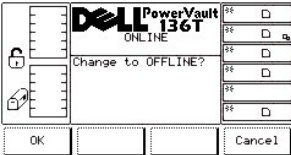

Figure 16. Offline Confirmation Dialog
- 1 The Offline Confirmation screen is displayed. See Figure 16.